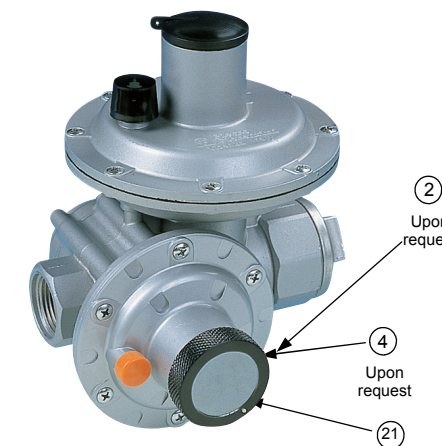

Fig. 3
- Remove the cap (pos.16) that covers the over pressure slam shut
- Unscrew the nut (pos.15) counter clockwise till the end of the thread
- Insert the cap (pos.16) in the knob (pos.20) and pull to rearm the OPSO
- Remove the screws on the OPSO cover (pos.21 Fig. 3)
- Remove the cover and the slam shut pulling the cap (pos.16)